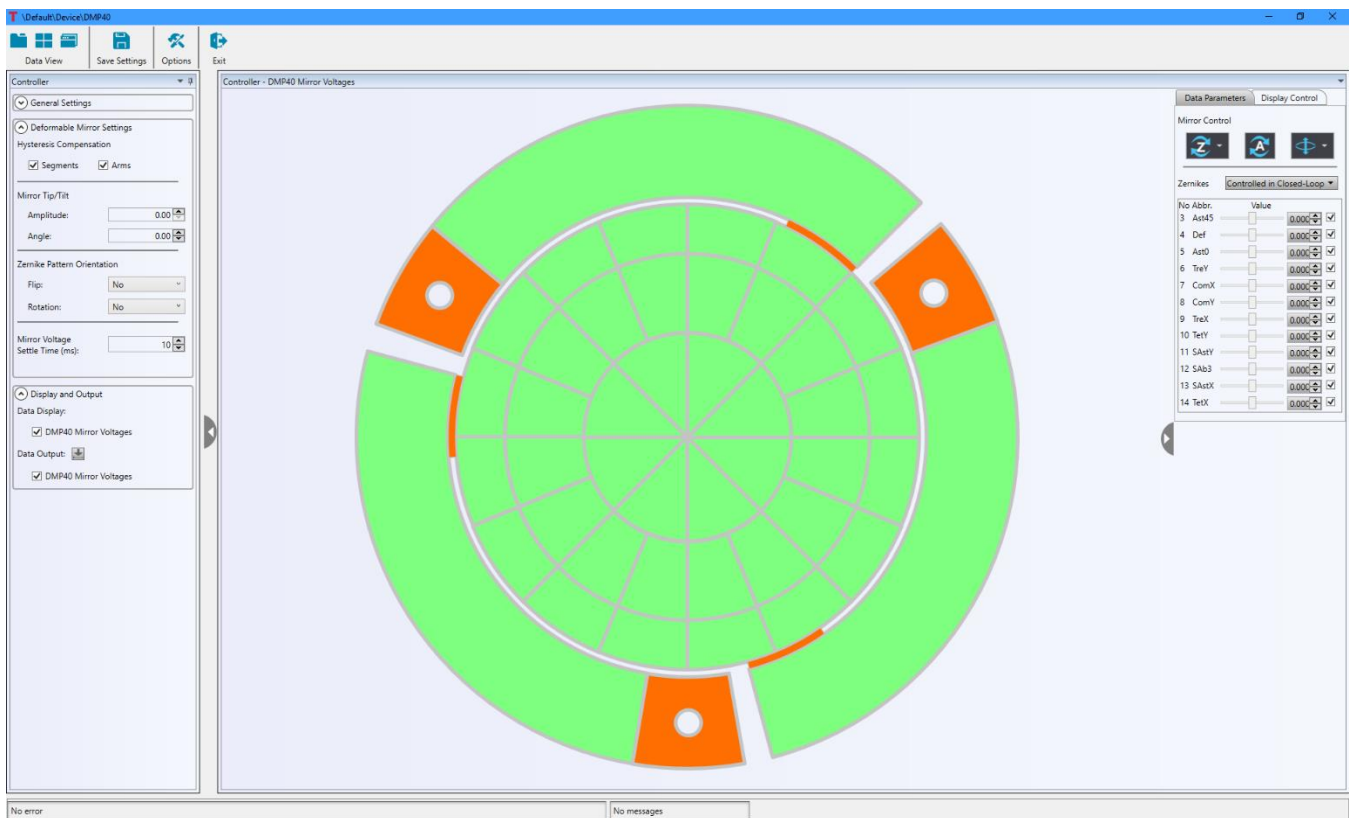

Figure 130 Thorlabs DMP40 Element Tab and Graphics Data Panel
The DMP40-P01 (DMP40/M-P01) deformable mirror element window is laid out into two (2) sections. The left section is element tab which includes deformable settings and display/output settings. The right section is the graphical display of the mirror segments and arms, see Figure 130. The mirror includes the main mirror segments that are used to affect the incident wavefront. There are 40 unimorph piezoelectric actuators arranged in a radial pattern to allow the application of Zernike based shapes to the mirror surface. These segments are physically separate from the DMP40 design's three (3) bimorph arms used to affect overall tip and tilt of the mirror.